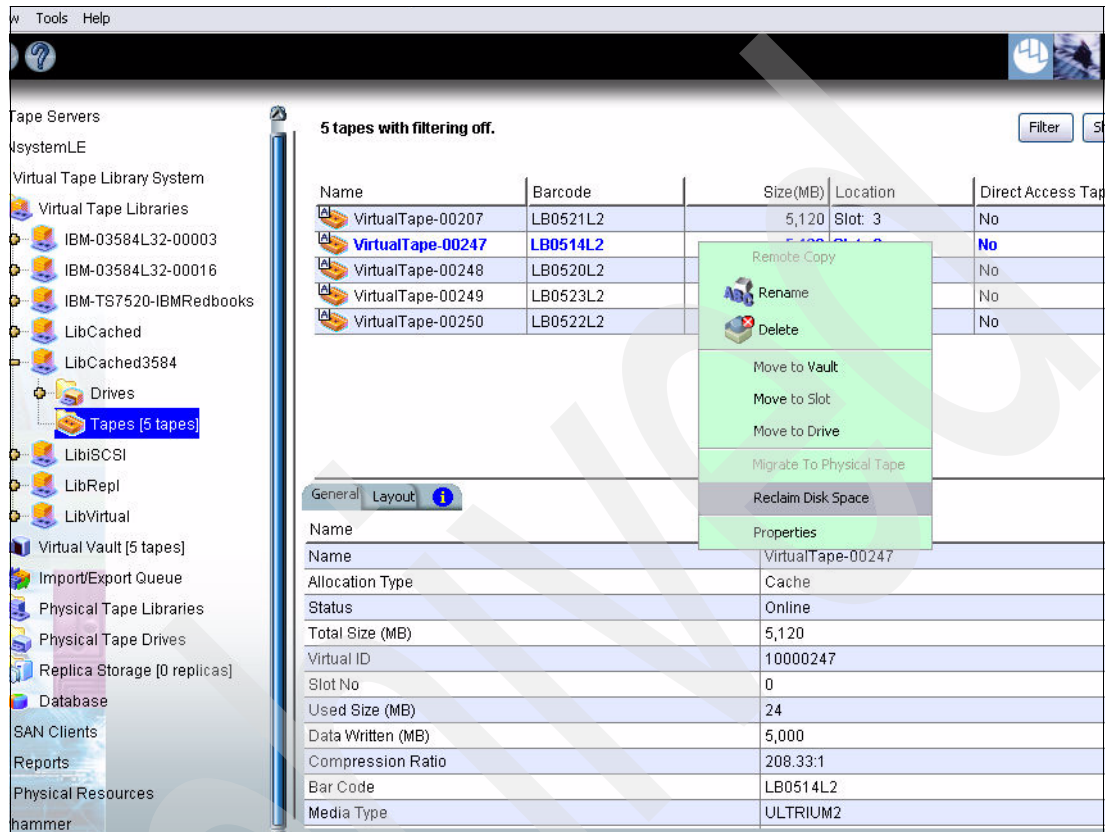

Figure 12-53 Reclaim disk space for a single cached virtual volume
1. Right-click a cached virtual volume and select **Reclaim Disk Space** (Figure 12-53). Once disk space has been reclaimed, it will become a direct link tape, which does not occupy disk space.